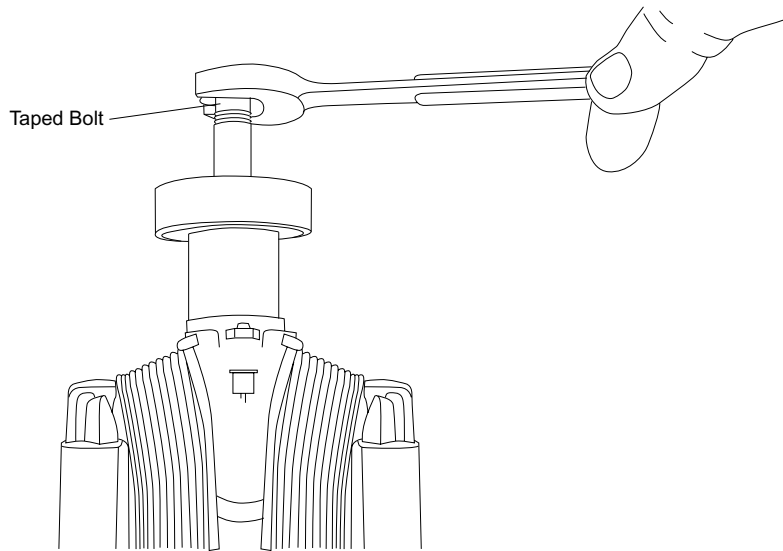

Figure 33: Tightening of Through Bolt for Separation of Engine and Generator
- (8) Install the bolt in the center of the rotor shaft refer (to Figure 33). Turn the bolt into the shaft; the force required to turn the bolt will increase as the pressure increases.